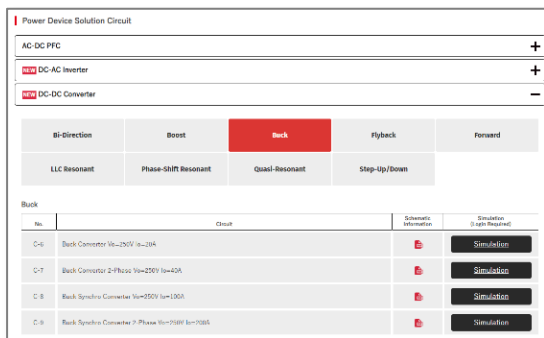

Figure 2. Select a circuit diagram from the ROHM Solution Simulator page on the ROHM Website.
1. Select a circuit diagram from the ROHM Solution Simulator page on the ROHM Website (Figure 2).